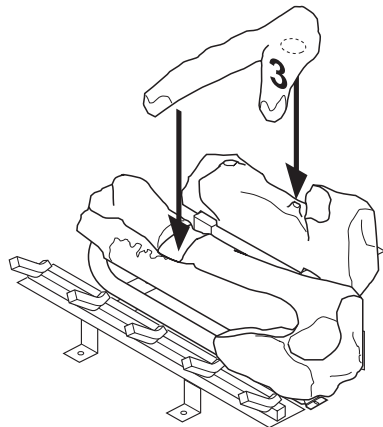

Figure 26 - Installing Log No. 3
It is very important to install these logs exactly as instructed in Figures 26 through 30. Do not modify logs. Only use logs supplied with freestanding burner system. Do not use if any log(s) are broken (see *Replacement Parts*, page 29).
4. Place log #3 (crossover log) onto rear and front logs. Make sure it is seated properly into notch on front log and over the raised triangular portion of rear log as shown in Figure 26.